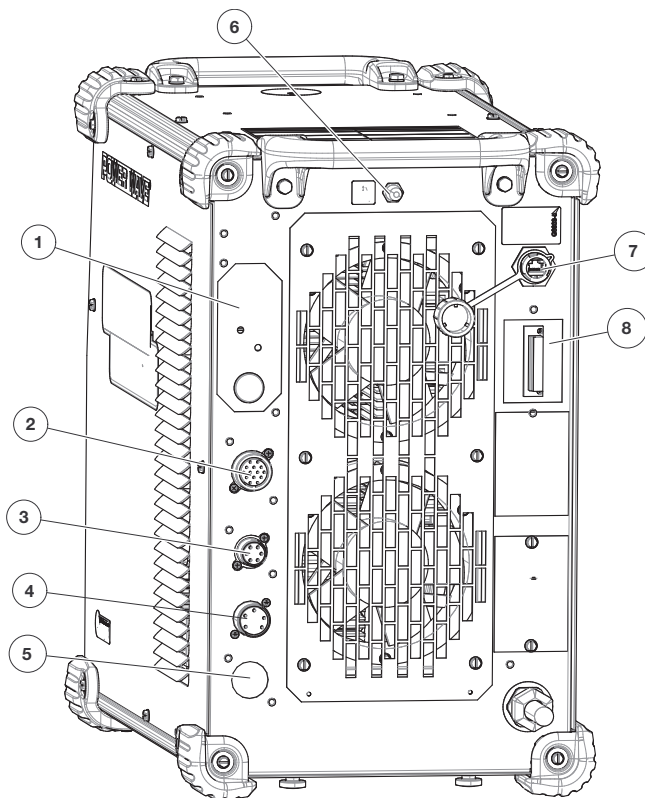

FIGURE B.2A
8. **External I/O CONNECTOR** - Terminal Strip for making simple input signal connections. (See Figure B.2A)